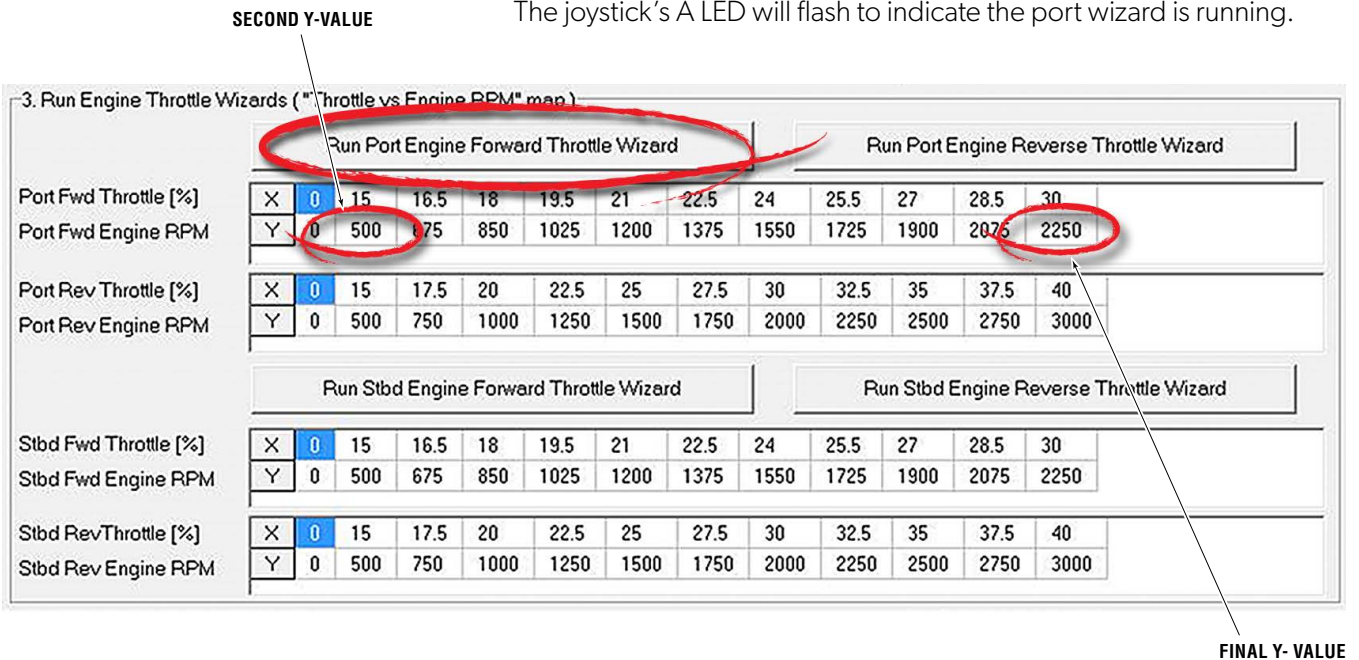

Figure B-9. The engine response configuration wizards are found on the Setup tab.
2. Click **Run Port Engine Forward Throttle Wizard** (see figure B-9).
5. Examine the second *Y-value* (see figure B-9) in the table. If it is more than 100 RPM higher than the engine's in-gear idle RPM, go back to STEP 2 and *decrease* FWD: Port Max Throttle at Idle by 0.5%. Click **Write** if you make a change.